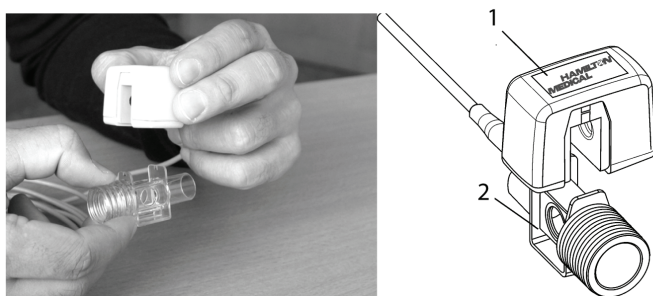

Figure 3-3. Disconnection of the mainstream sensor for calibration
- The CO2 sensor and adapter must be disconnected from the patient circuit during the CO2 sensor/ adapter calibration (Figure 3-3), but otherwise the patient may remain connected to the ventilator.